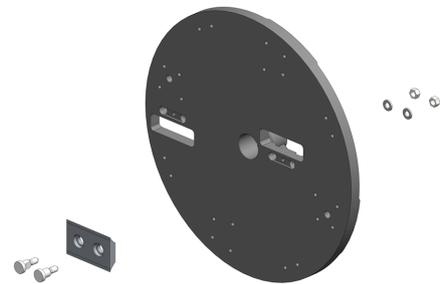

Figure 22 - Blade Mounting
14. Fit the blade to the rotor using the retaining bolts, washers and Nyloc nuts. The use of genuine Timberwolf blades and bolts is recommended (Figure 22).